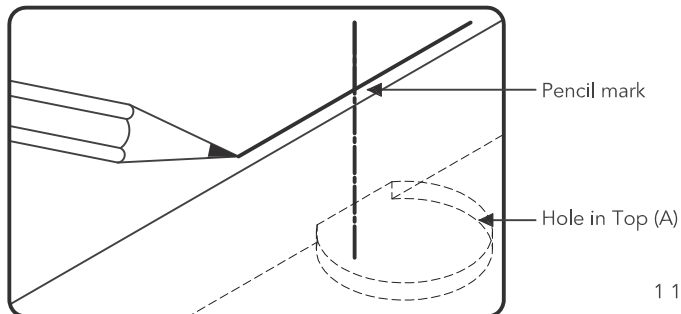

Figure 3
Mark wall with pencil just above and in-line with hole in Top (A). (See Figure 3)